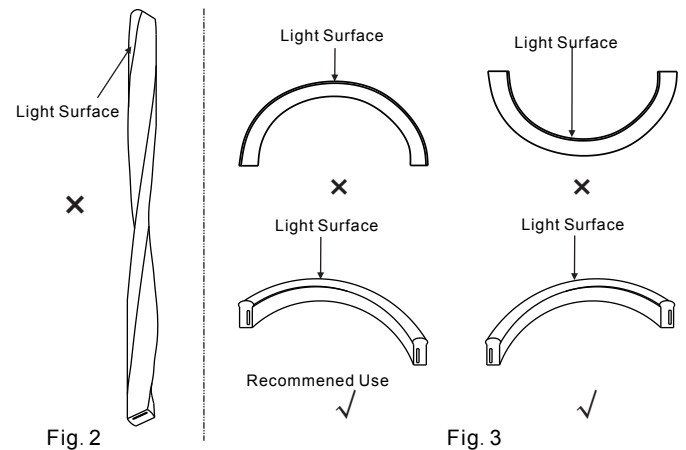

Fig. 4 Installation of the light hanging suspended in the air as the picture illustrates is forbidden.
10. Do not hang this light in the air as Fig.4.